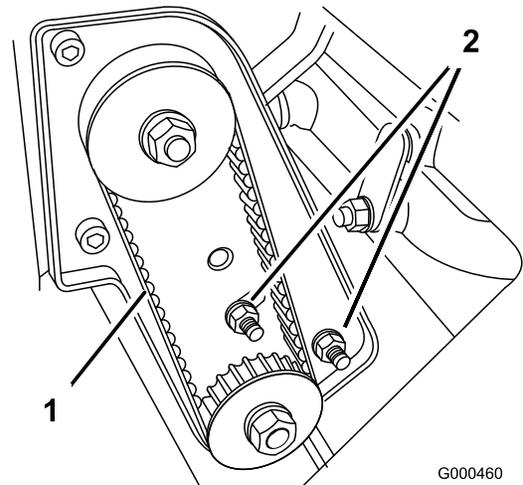

Figure 42
- A. Loosen the bearing housing mounting nuts (Figure 42).
- C. While holding the torque wrench setting, tighten the bearing housing mounting nuts (Figure 42). Do not over-tension belt.